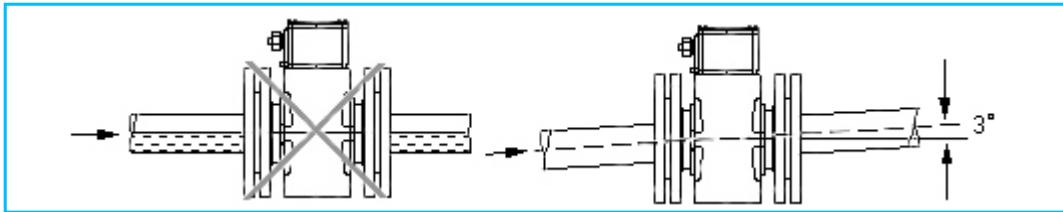

Fig. 6 : Installation in Horizontal Pipeline
- S light pipeline slope for degassing see Fig. 6